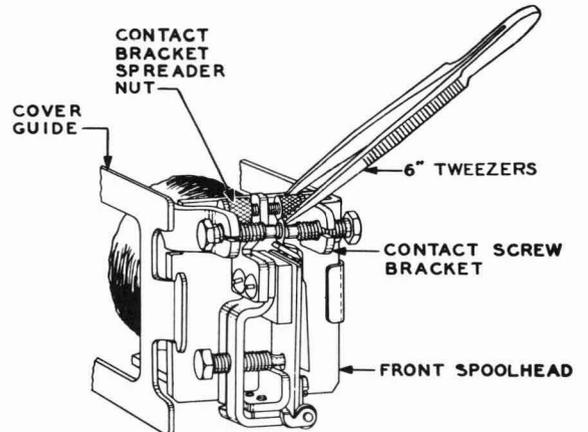

Fig. 11 - Method of Adjusting for Contact Screw Bracket Position
(2) **Relays Equipped With Contact Bracket Spreader:** If the clearance between a contact screw bracket and the front spoolhead is not satisfactory, turn the nut on the spreader with the 6-inch flat tweezers in a direction which will move the bracket away from the spoolhead as shown in Fig. 11.